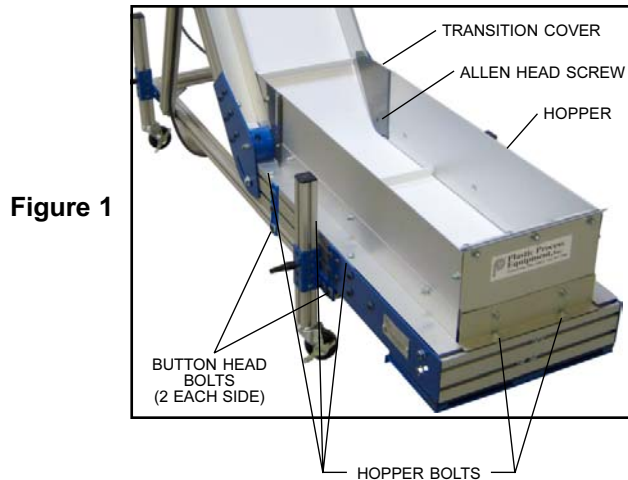

Figure 1
- 2) Remove the eight hopper bolts on top of frame (see **Figure 1**) and the two Allen head screws and the A-5470 plastic transition covers where the hopper meets the incline section.